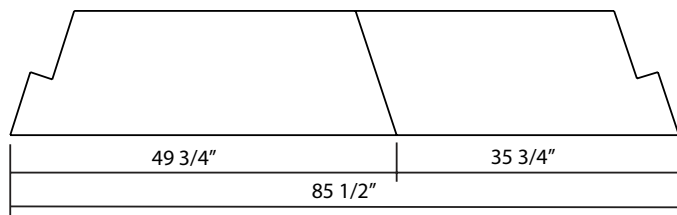

FIGURE 60
**Step 14:** Place one modified smoke dome top big pieces (haunch cut off and a bottom length of  $49 \frac{3}{4}$ " together with one of the smoke dome top big pieces that was angle cut to  $35 \frac{3}{4}$ " bottom length and parallel angle) together on the damper support and flush with the back wall of the firebox so that the two smoke dome pieces meet along their field modified cut line (Figure 60).